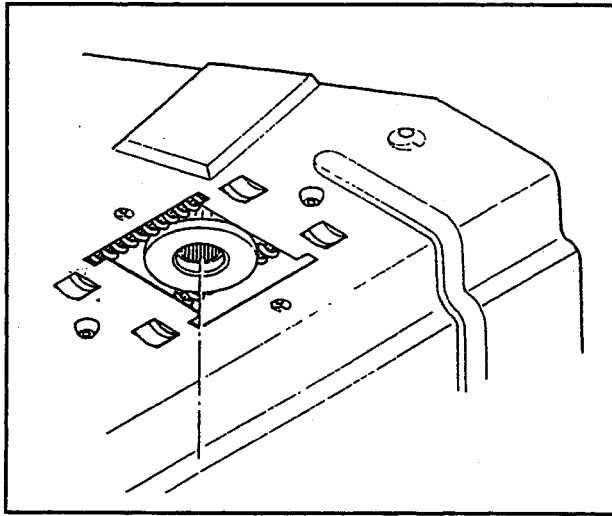

Fig. 11 - Removing Gear Wheel.
8. Remove gear wheel by inserting a screwdriver, push forward, until it drops down (fig. 11).
26. Mount the new gear wheel. Being sure to centre it evenly between the walls of the hole in the motor bracket. Note that the core or centre of the gear has splines (teeth). The splines do not extend completely to one side of the gears inner core. This is the down (bottom) side for mounting (Fig. 11).
NOTE: If the timing spots are not aligned, turn the top mount cable gear until each appears aligned over one another in the view finders (Fig. 11).
9. Remove gear wheel by inserting screwdriver, push forward, until it drops down (Fig. 11).
11. Mount the new gear wheel. Being sure to centre it evenly between the walls of the hole in the motor bracket. Note that the core or centre of the gear has splines (teeth). The splines do not extend completely to one side of the gears inner core. This is the down (bottom) side for mounting. (Fig. 11).
NOTE: If the white timing spots are not aligned, turn the top mount cable gear until each appears aligned over one another in the view finders (fig. 11).